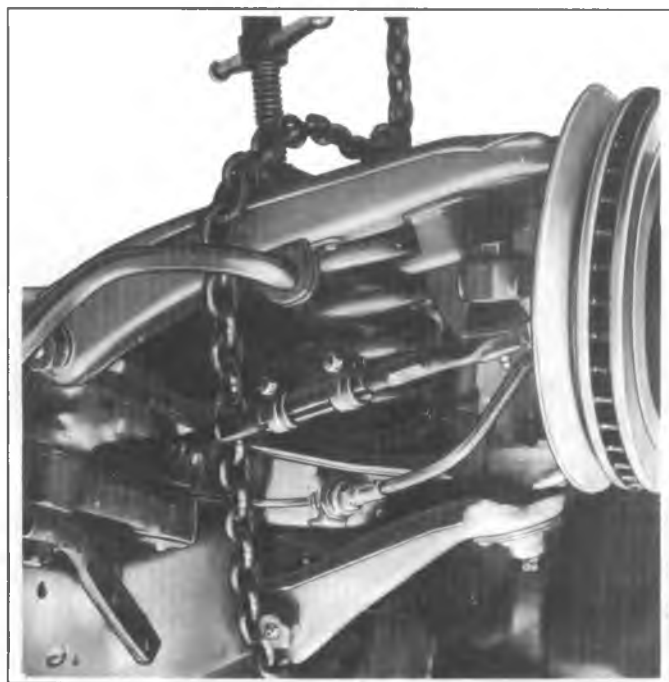

Fig. 3C-18--Removing Inner Pivot Shaft
3. Start new bushings on shaft and into control arm. Adjust shaft until it is centered in control arm, then turn bushings in and torque to specifications. Figure 3C-19 shows correct final positioning of shaft. Check shaft for free rotation and install grease fittings.
3. Torque the shaft end nuts. See Fig. 3C-19 for proper spacing. The shaft should rotate by hand after the nuts are torqued.